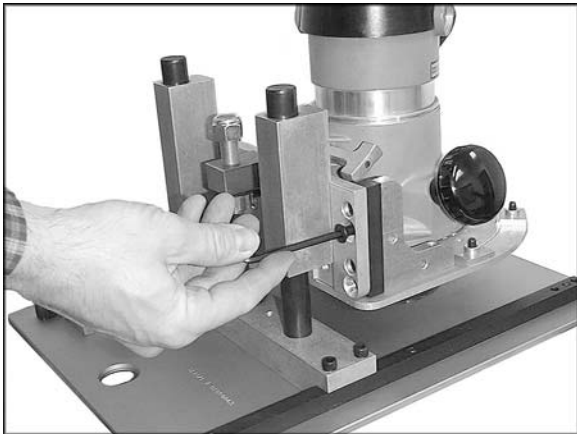

Figure 5
11. Using the 1/4-20 x 1" flat head screws (removed in step 1), re-install the carriage to the XACTA LIFT (Fig. 5). NOTE: Use the socket head cap screws as locating pins for easier installation of the carriage.